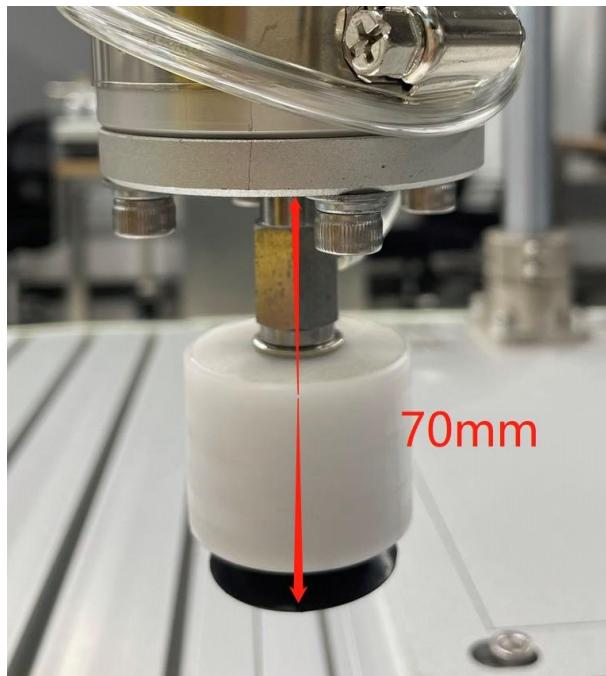

Figure 4.6: Approximate Dimensions of the attached end effector plate and suction gripper in mm.
- Figure 4.6 shows the dimensions of the end effector including the aluminum plate and suction gripper.